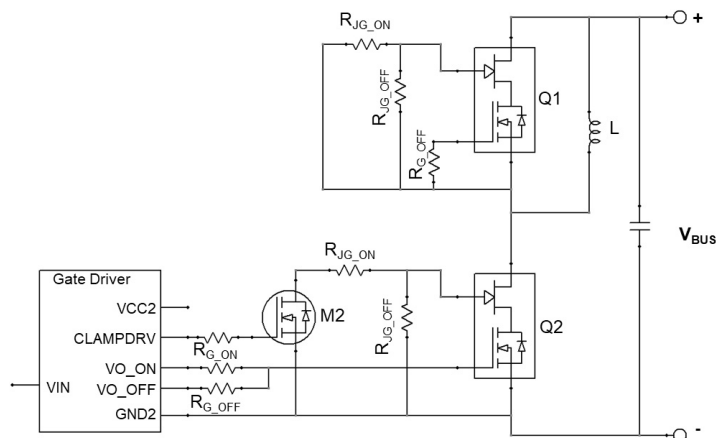

Figure 23. Schematic of the Half-bridge Mode Switching Test Circuit with ClampDRIVE Method.
5. Measured with the half-bridge mode switching test circuit in Figure 23.